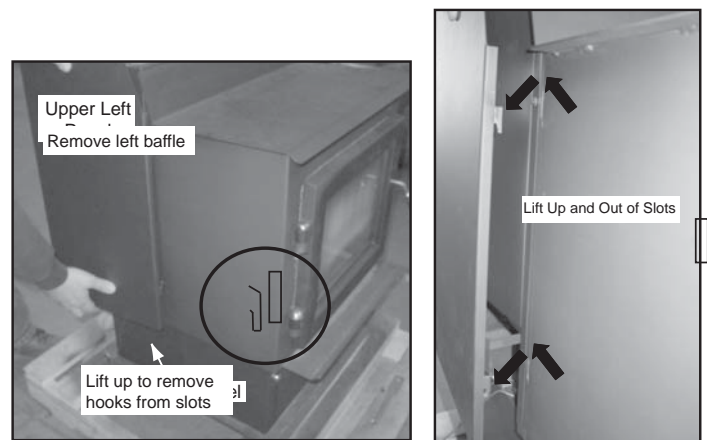

Figure 21.2
5. Remove the left upper and lower side panels by lifting up and out. The hooks on the panels will slide out of the slots on the appliance. **Figure 21.2.**